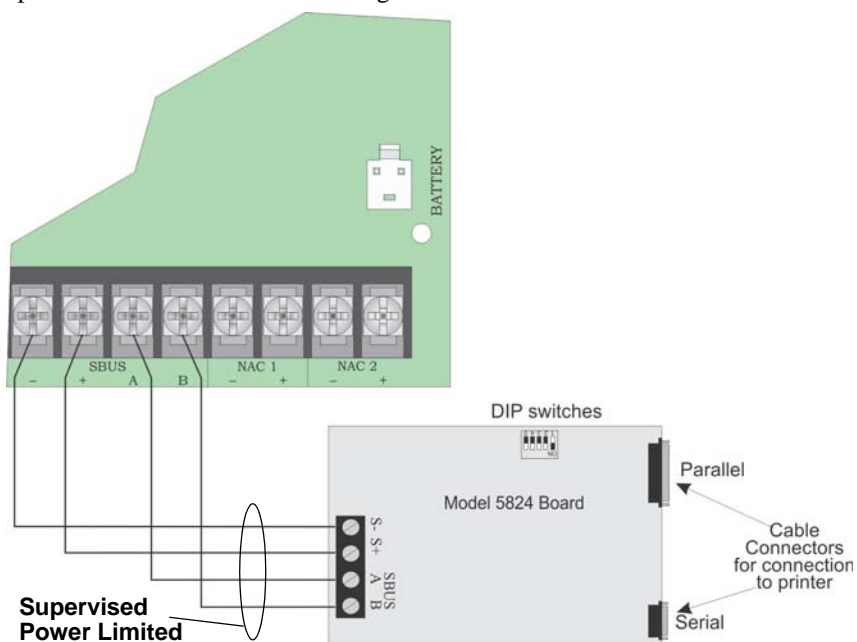

Figure 4-16 5824 Connection to the Panel
2. Connect the 5824 to the panel as shown in Figure 4-16.